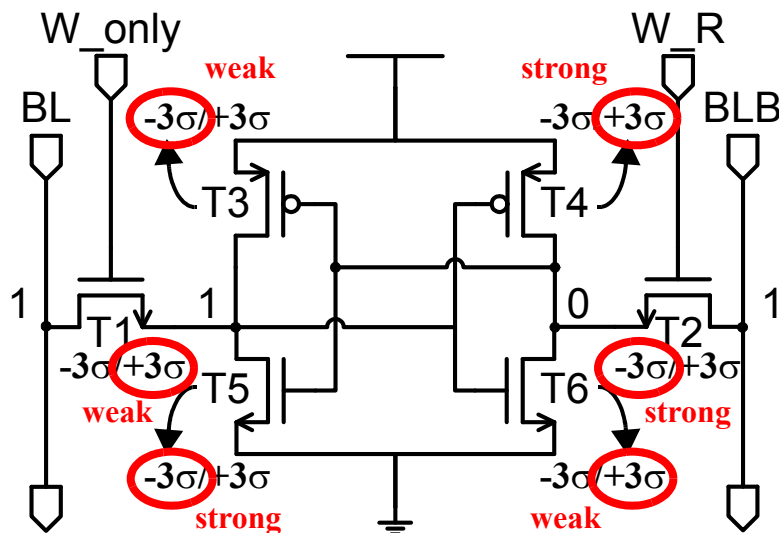

Figure 6. SRAM Circuit for Problem 4.2.
4.2 (4 Points) How would you modify transistors T1 – T6 to test for **read robustness**? Similar to Problem 4.1, for each transistor in Figure 6 below, circle the correct value to skew V_{th} by, either -3σ or $+3\sigma$ to test for worst case robustness.